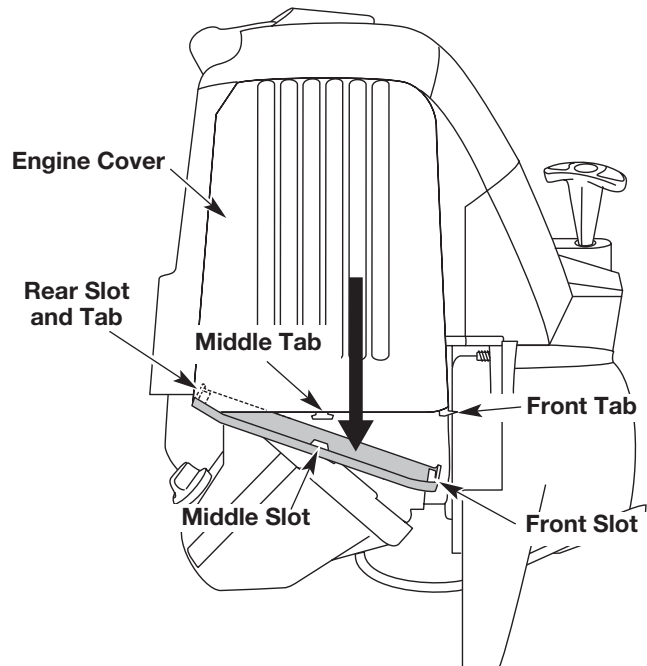

Fig. 50
1. Remove the muffler cover by pressing down on it, separating it from the engine cover. Using a flat blade screwdriver, disengage the middle and front tabs and slots first. The cover will hinge off from the rear tab (Fig. 50).
- Reinstall the muffler cover. Slip the rear tab on the muffler cover into the engine cover rear slot. Then slide the remaining slots into the tabs until they snap into place (Fig. 50).